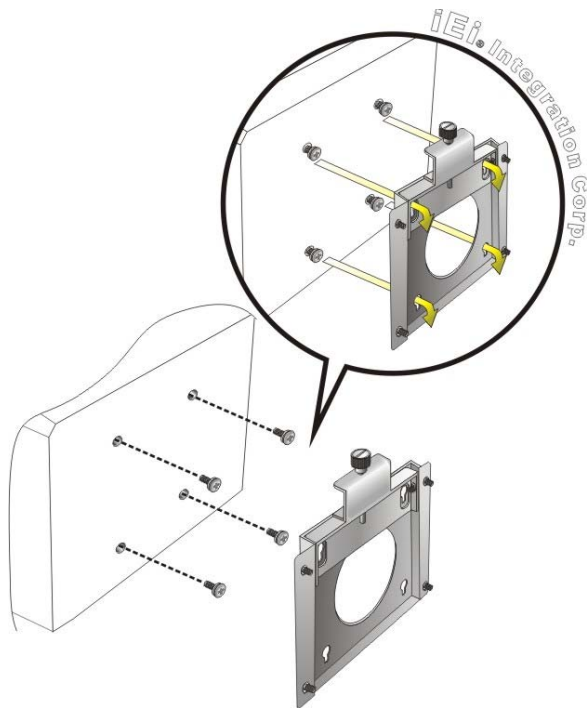

Figure 3-17: Chassis Support Screws
Step 6: Insert the four monitor mounting screws provided in the wall mount kit into the four screw holes on the rear panel of the flat bezel panel PC and tighten until the screw shank is secured against the rear panel (**Figure 3-17**).
Step 8: Carefully insert the screws through the holes and gently pull the monitor downwards until the monitor rests securely in the slotted holes (**Figure 3-17**). Ensure that all four of the mounting screws fit snugly into their respective slotted holes.